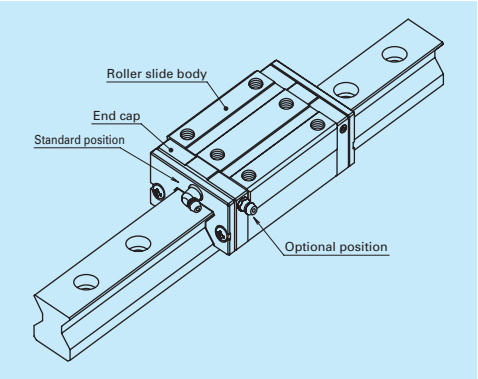

Fig. 11 Mounting position of lubrication accessories
(2) Mounting position of lubrication accessories
- The standard position of grease fittings and tube fittings is the end face of roller slide. We can mount them on a side of end cap for an option. (Fig. 11) Please consult NSK for installation of grease or tube fittings to the roller slide body or the side of end cap.